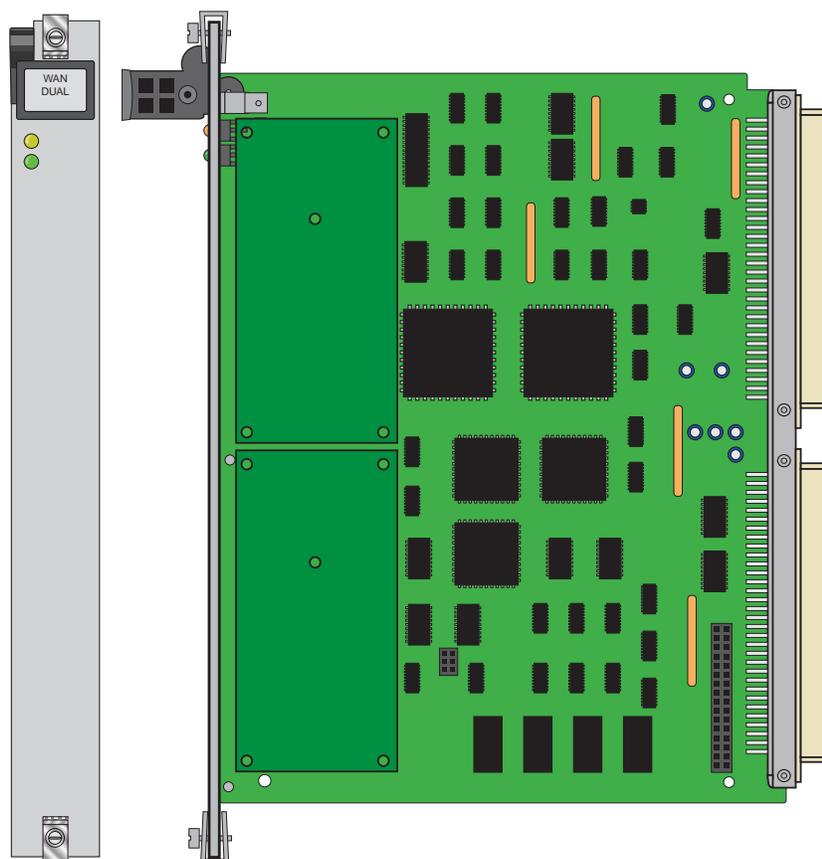

Figure 7-1. WAN DUAL Card
The WAN DUAL card connects to two T1 or E1 lines, or to one of each type. It works with only one DSX/CEPT or CSU plug-in module if the WAN port without either module remains in the standby state (see Figure 7-1). **However, a CGA-Red alarm will be generated for that port.** The WAN DUAL (8010) card works with DSX/CEPT module (811) refer to section 7.3.1 on page 7-5 and CSU Module (812) refer to section 7.3.2 on page 7-15 for more information.